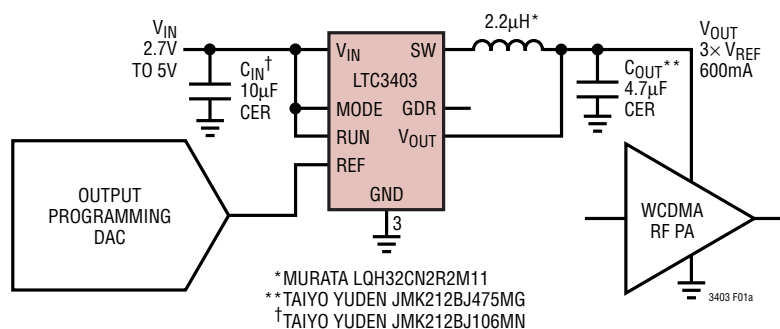

Figure 1a. WCDMA Transmitter Power Supply
## TYPICAL PERFORMANCE CHARACTERISTICS (From Figure 1a)
**TYPICAL PERFORMANCE CHARACTERISTICS** (From Figure 1a)
# TYPICAL PERFORMANCE CHARACTERISTICS (From Figure 1a)